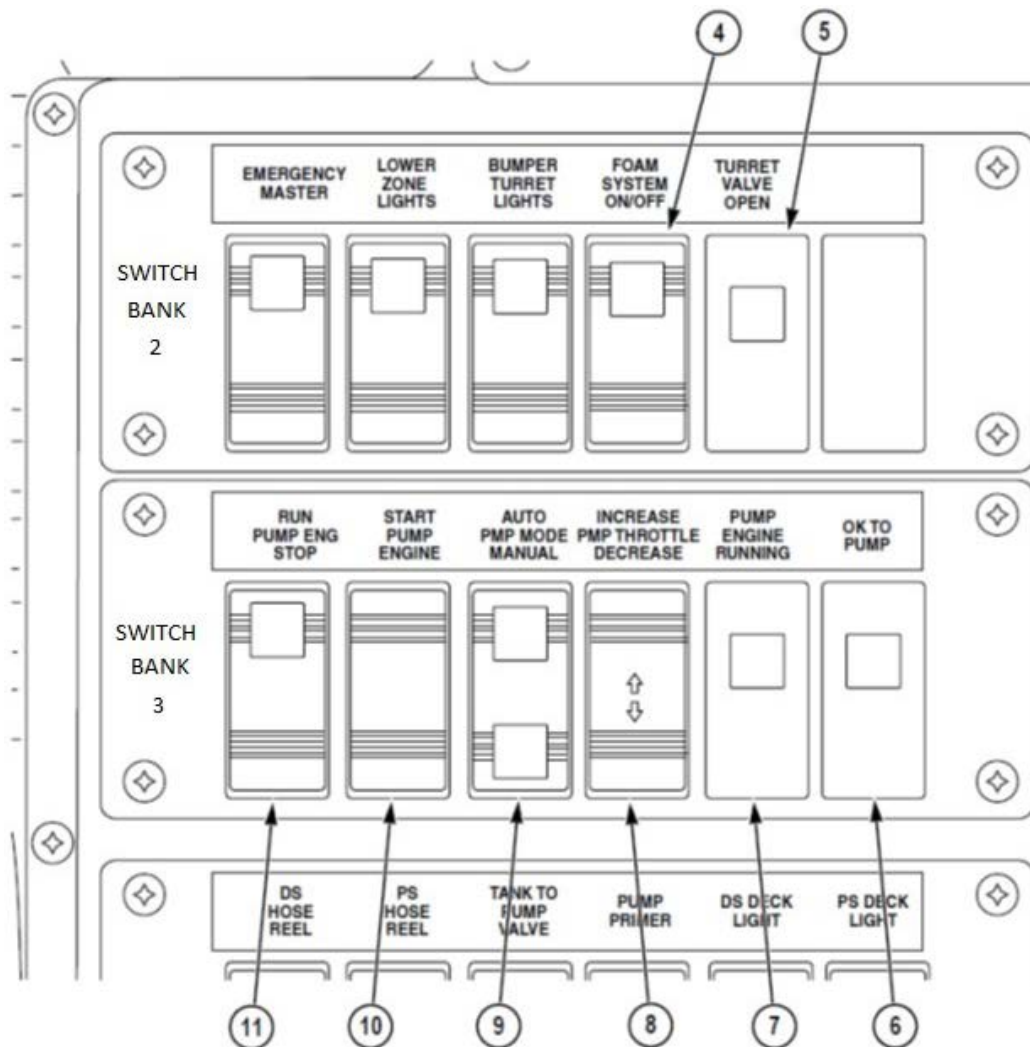

Figure 5-9. Switch banks 2 and 3.
7. **SWITCH BANK 3.** Houses various fire-fighting controls and indicator lights (fig. 5-9).